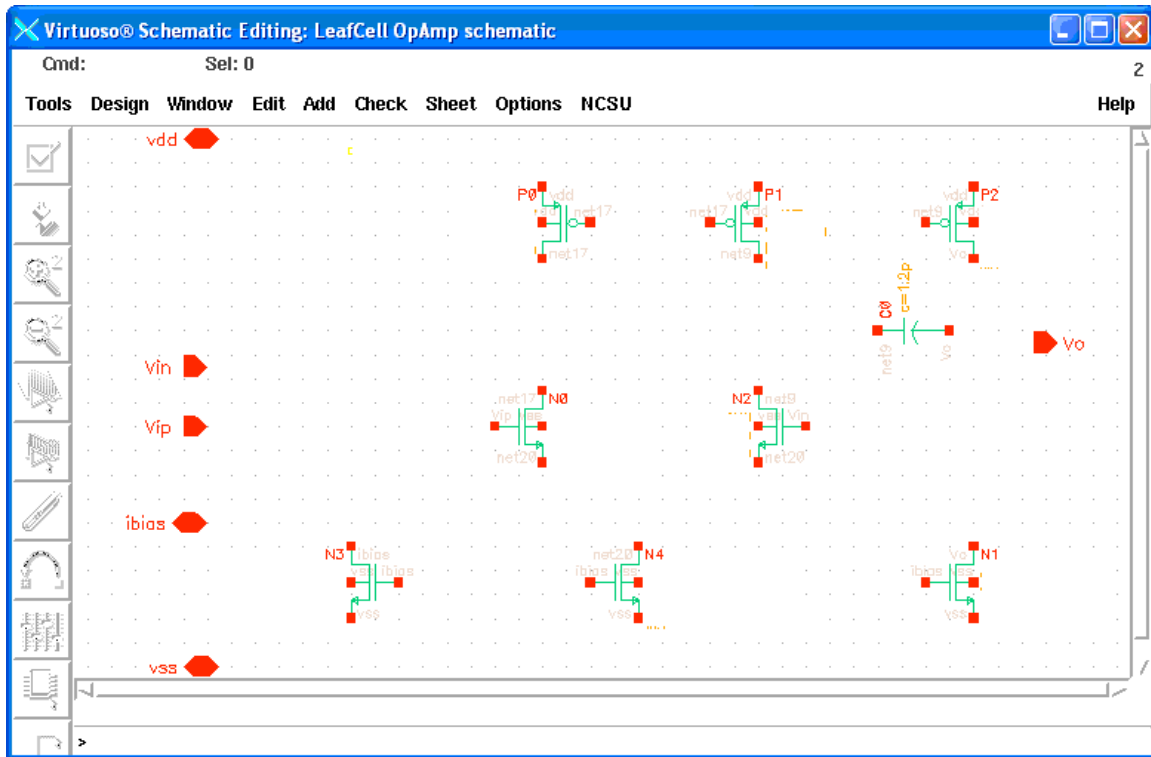

Figure 136: Adding and placing the instances.
3. Adding the input and output pins(Figure 136):